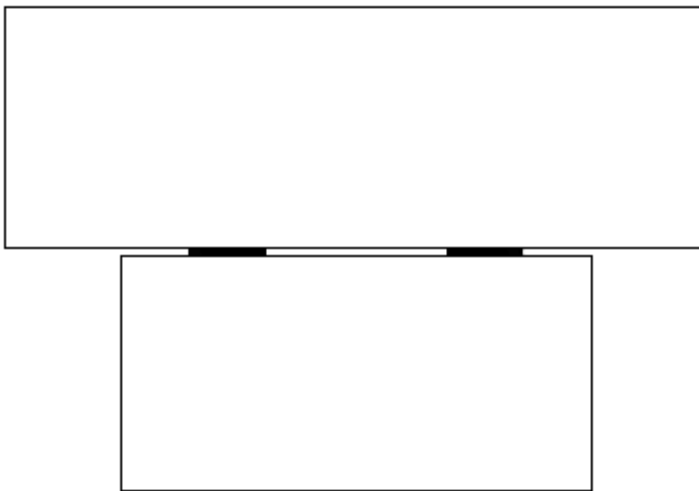

Figure 2—Blocks Assembled in Opposing Fashion
- 3.4 As rapidly as possible, squarely and evenly place block A on top of block B in an opposing fashion. (See Figure 2.)